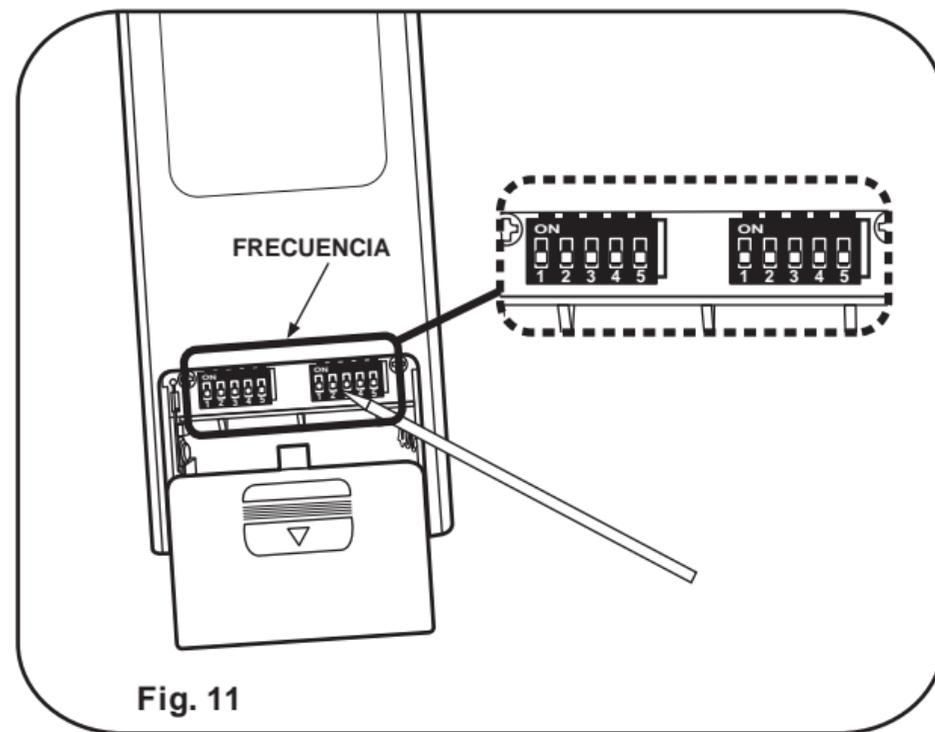

Fig. 11
**NOTE:** The Aire Control® System is equipped with a learning frequency function which has 1024 code combinations to prevent potential interference from other remote units. The frequency on your Receiver and Transmitter units have been preset at the factory. (Fig. 11) No frequency change is necessary, should you desire to install another fan within the same home or area with a seperate frequency code please see the "frequency interference" troubleshooting section of this instruction manual to learn how to change the frequency.